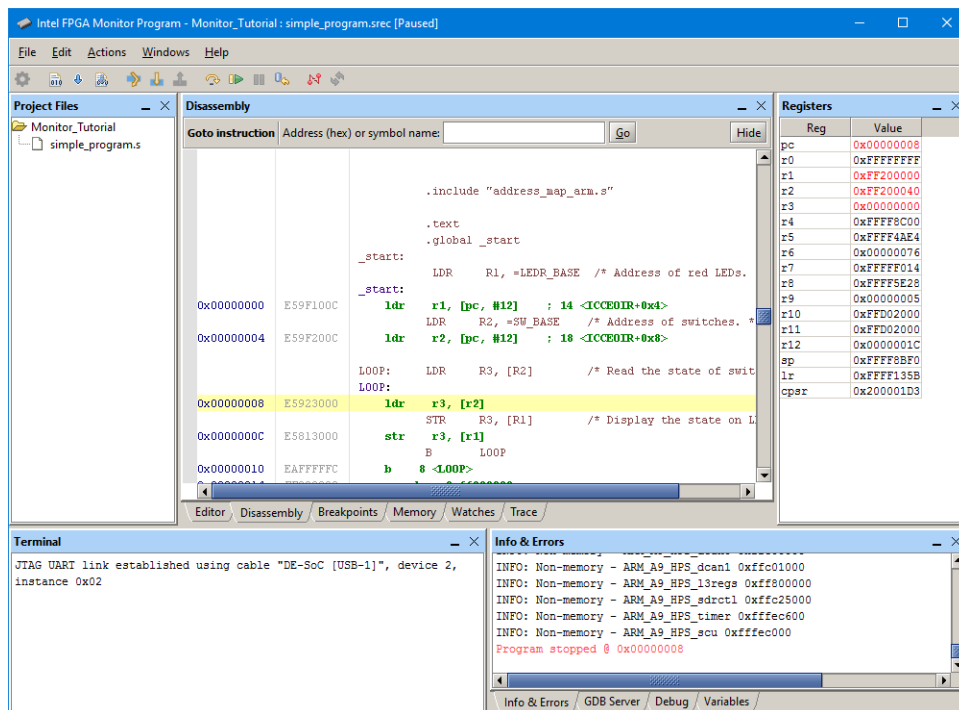

Figure 15. The Monitor Program display after the program has been stopped.
Figure 15 shows an example of what the display may look like when the program is halted by using the **Stop** command. The display highlights in yellow the next program instruction to be executed, which is at address `0x0000000C`, and highlights in red the values in the processor registers that have changed since the last program stoppage. Other screens in the Monitor Program are also updated, which will be described in later parts of this tutorial.
In Figure 15, the Disassembly window shows the machine instructions for our program. The leftmost column in the window gives the memory addresses, the middle column displays the machine code at these addresses, and the rightmost column shows the corresponding assembly-language instructions.
1. In the Disassembly window, scroll to display the instruction that will have the breakpoint. For example, in the window in Figure 15 scroll to the Branch instruction at address 0x00000010.